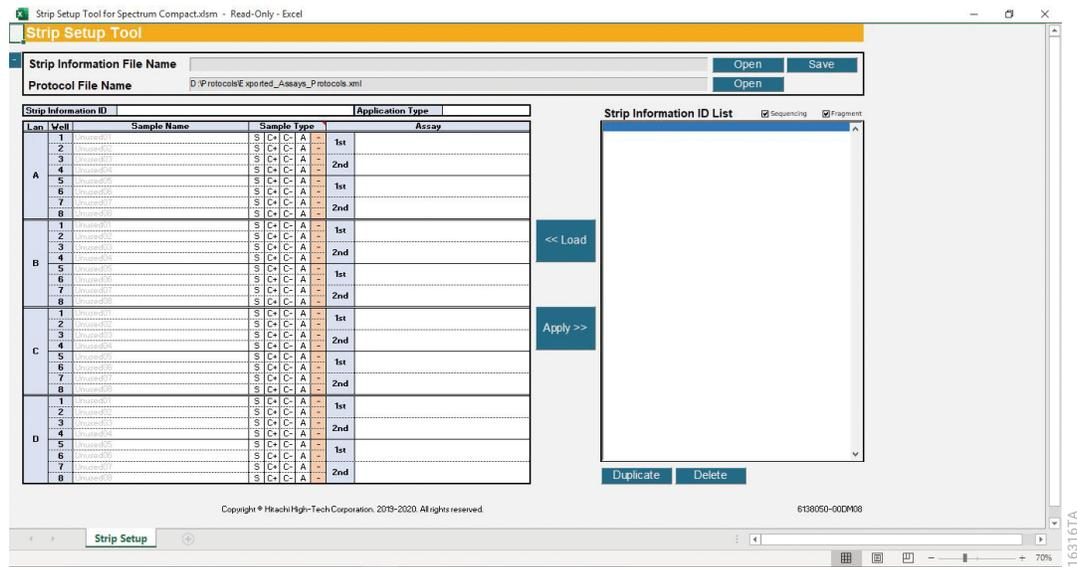
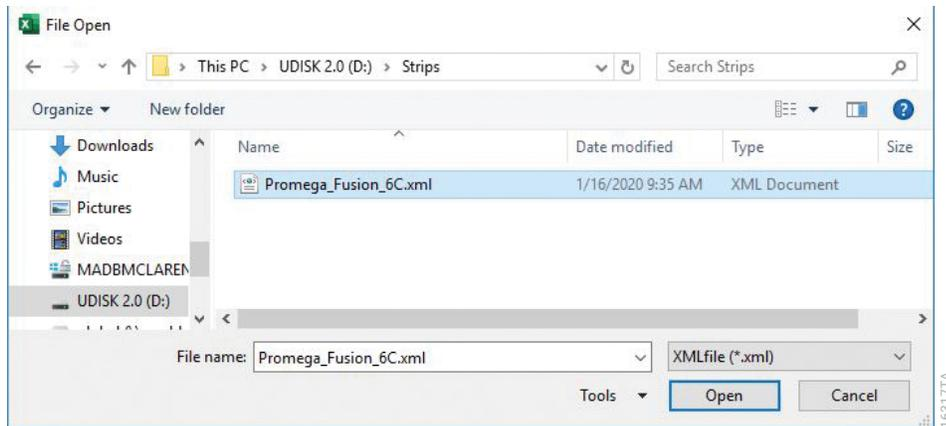
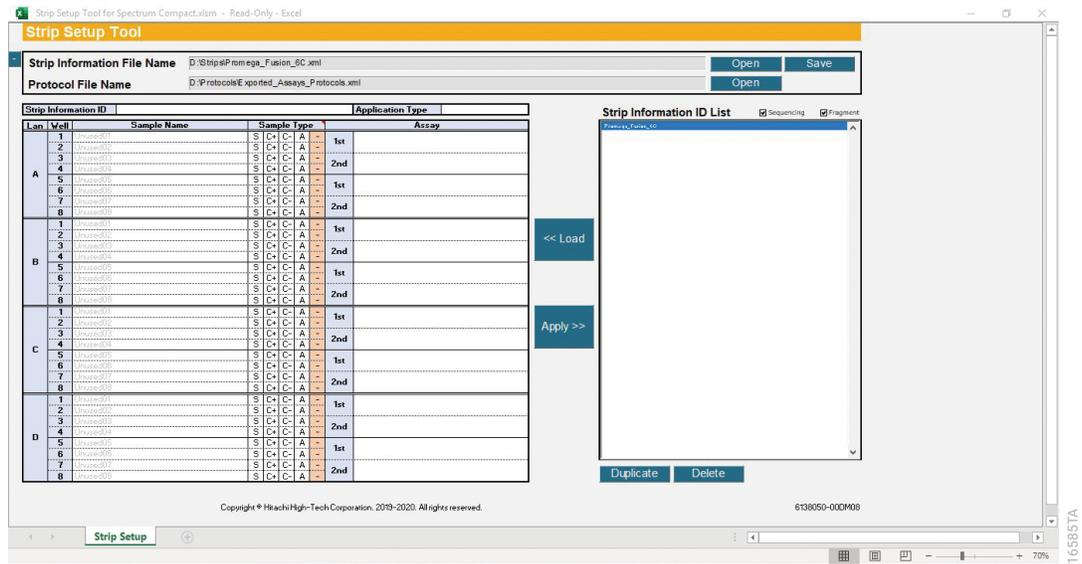

Figure 215. Strip Setup Tool for Spectrum Compact with Protocol .xml file in Protocol File Name.
Figure 216. Browsing window.
Figure 217. Strip Setup Tool for Spectrum Compact with strip .xml file in Strip Information File Name.
- After opening a protocol .xml file within the Strip Setup Tool for Spectrum Compact, select **Open** on the right-hand side of the Strip Information File Name box (Figure 215). This opens a browsing window. Browse to the location of the strips .xml file created and select **Open** (Figure 216). A Microsoft® Excel® window will appear stating “Strip information file read complete”. Select **OK** to close out of this window. The strip .xml file name is now displayed at the top of the Strip Setup Tool in the Strip Information File Name box (Figure 217).
2. Select the desired Strip in the Strip Information ID List on the right-hand side of the screen followed by **Load** (Figure 217).